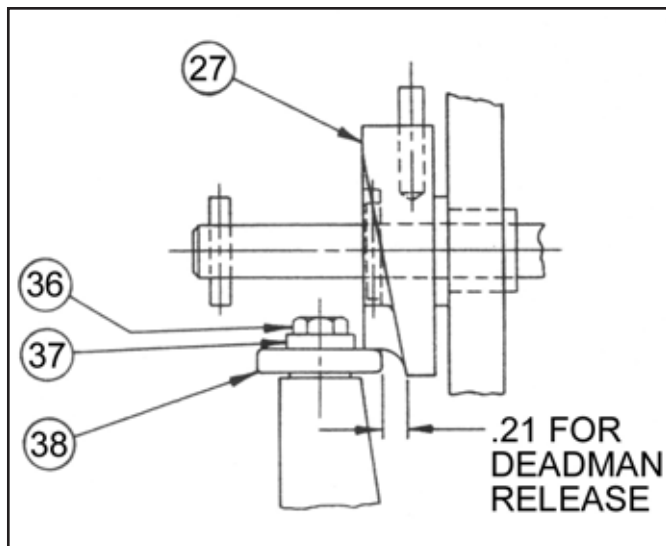

Figure 7.
DEADMAN: Check the manual release. Turn cam (27) clockwise until it stops and hold it in this position. The brake should be released. The cam should return to its normal position when you let go of cam. If not, adjust as follows: Loosen the capscrew (36). With the brake de-energized and the release cam in its normal position, turn eccentric bushing (37) until the distance between the bearing (38) and face on cam (27) measures .21 inches. See Figure 7. Hold bushing in this position and tighten capscrew. Check manual release for proper operation. **NOTE:** Due to the size of the discs, a slight drag is common (5-7 lb. ft.).